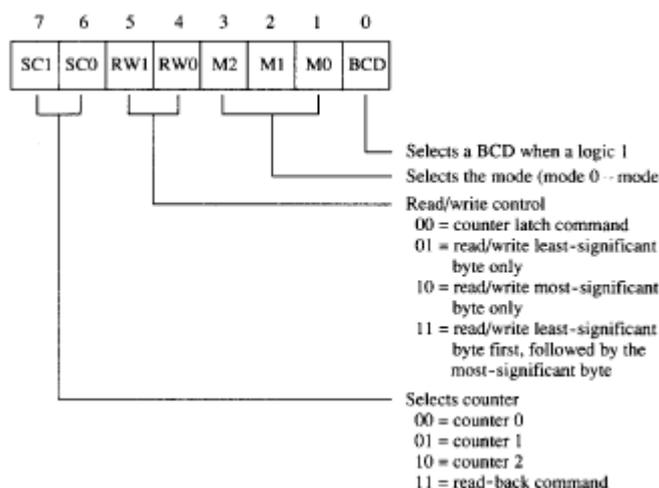

Figure 11-34: The control word for the 8254-2 timer
- Each counter is capable of counting in binary or BCD (Figure 11-34).